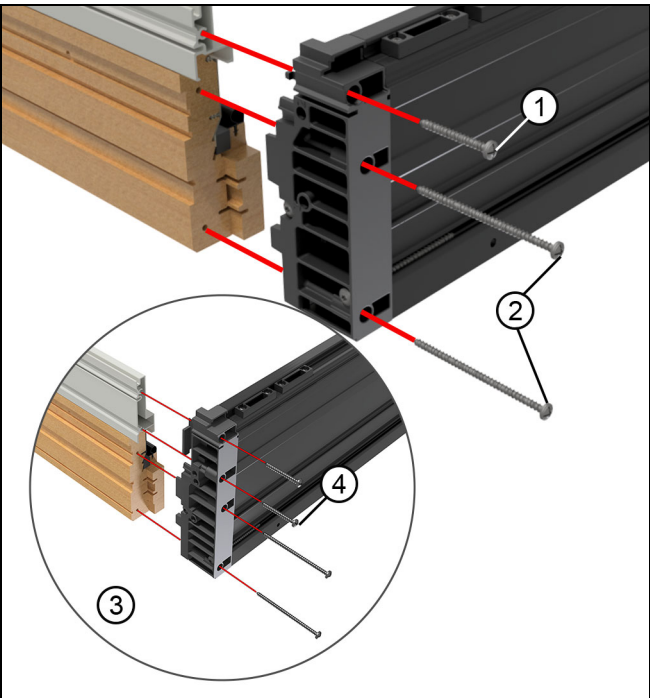

Figure 7
2. Once seated, use the provided #8 x 1-1/2" pan head screw (painted head) through the sill key into the jamb cladding. See Figure 7.
3. Use two #8 x 3" pan head screws to screw through the sill key into jamb wood. See Figure 7.